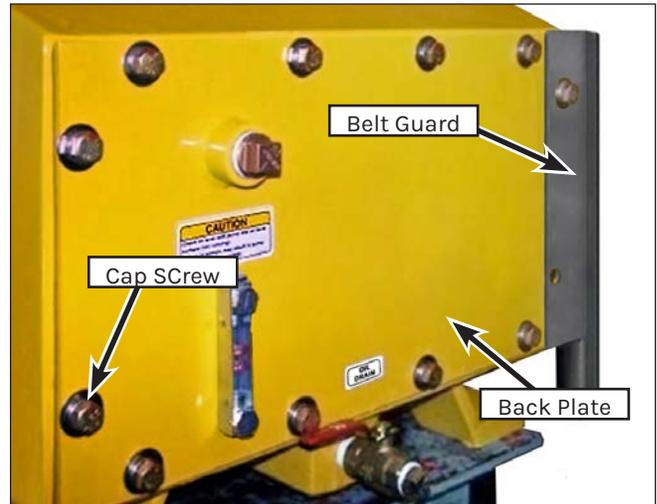

Figure 155: Back Plate Removal.
2. Once drained, remove the capscrews, washers and lockwashers from the back plate (Figure 155). Remove the plate, belt guard and gasket. If the gasket is stuck to the frame, it can remain.